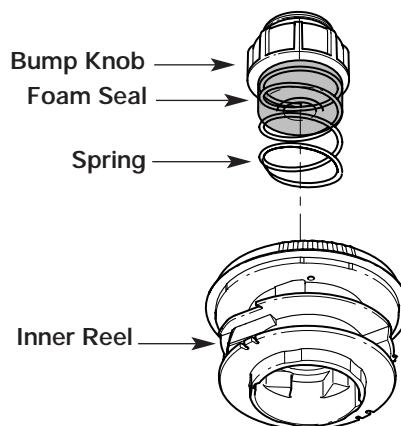

Figure 21
1. Turn the bump knob counterclockwise and remove the bump knob, spring and foam seal. See Figure 21.
4. Hold the inner reel in place and install the bump knob, spring and foam seal. Press down and turn the bump knob clockwise. Grasp the ends and pull firmly to release the line from the holding slots in the inner reel. See Figure 21.
7. Place the bump knob, spring and foam seal into the inner reel. See Figure 21.